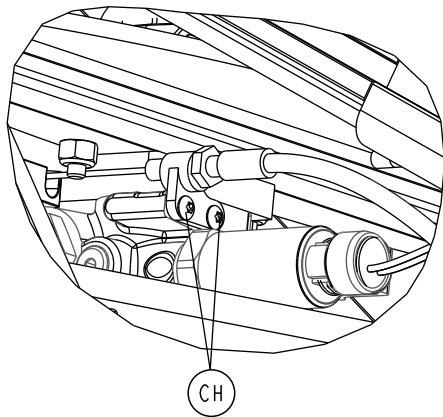

Figure 113 –
5. Using a T10 Torx driver, remove the two round washer head tapping screws (CH) that secure the manual release cable bracket to the hydraulic assembly (Figure 113). Save the screws.